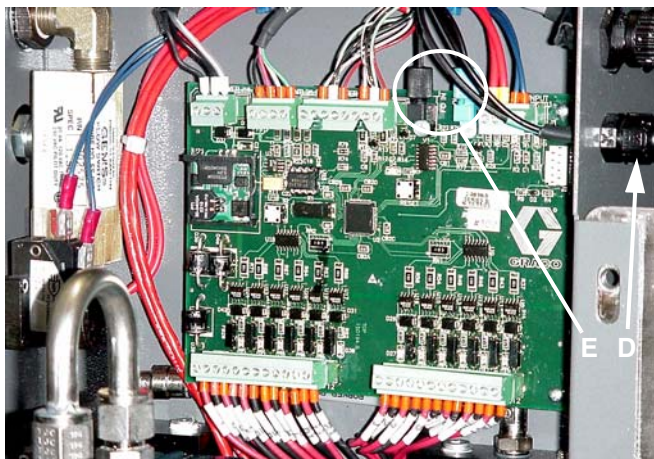

FIG. 16
- Connect the blue and black cable connectors (E) to the matching connectors on the electrical circuit board. FIG. 16. Insert the cable connectors until they bottom out (approximately ¼" [6 mm]), then tighten the threaded connector.
- Tighten the strain relief connector (D). FIG. 16.